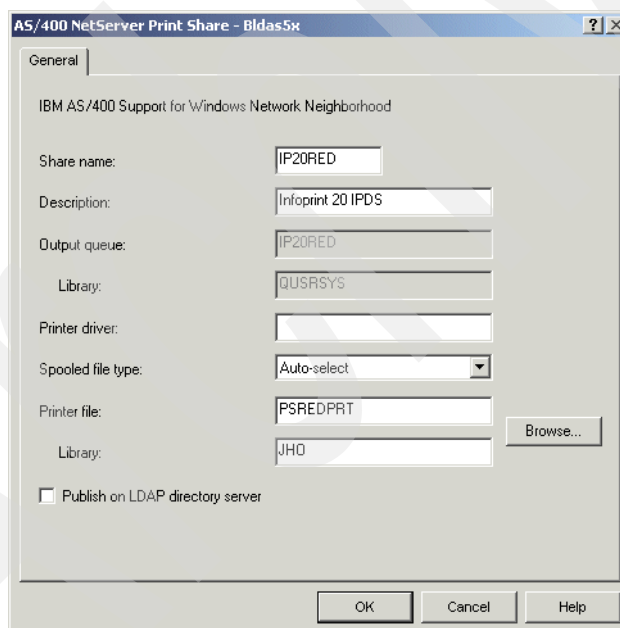

Figure 117. NetServer Print Share
5. After the printer list is displayed, select the printer you want to share. Right-click and select **Sharing-> New Share** to open the NetServer Print share window as shown in Figure 117.